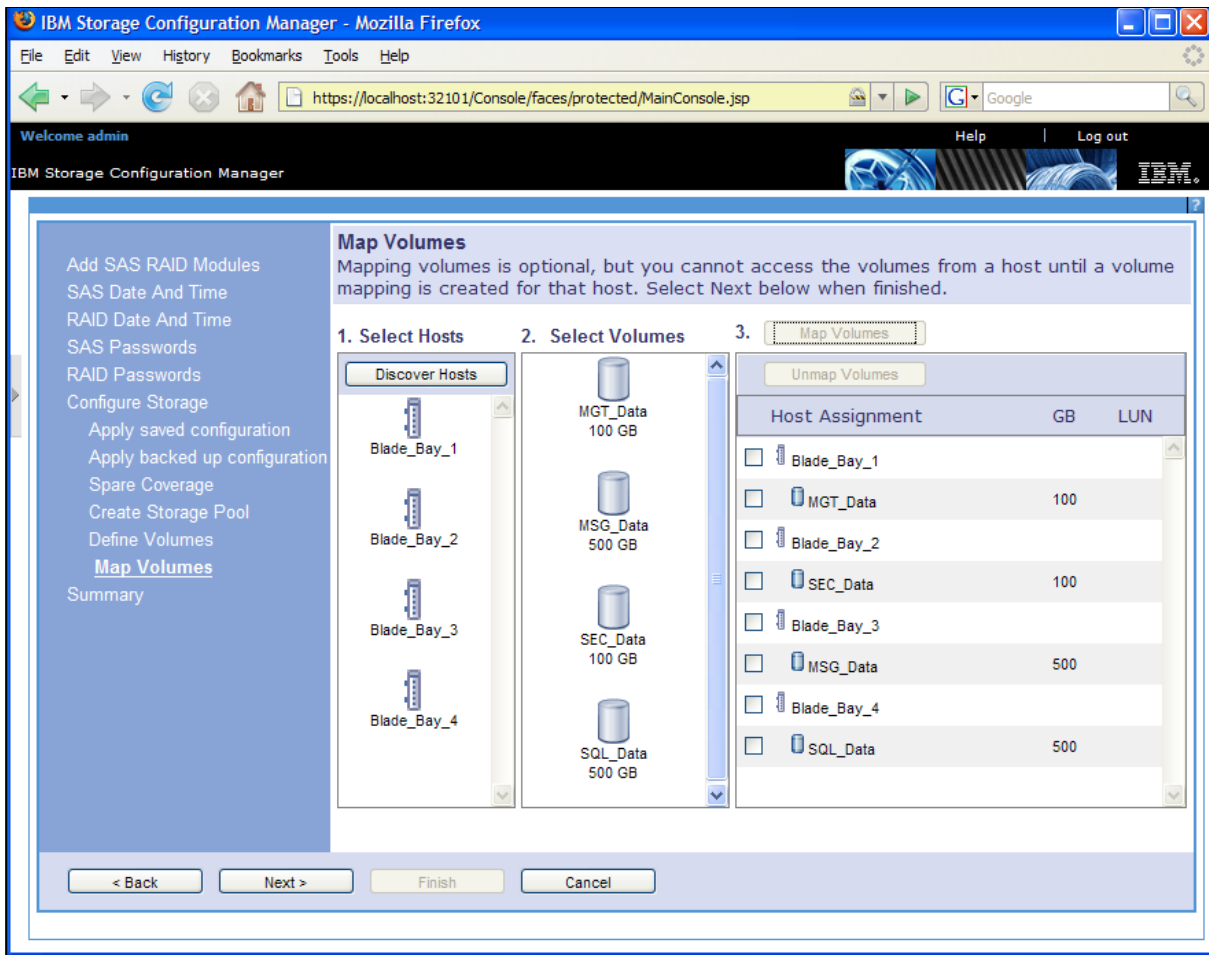

Figure 2-43 Map Volumes panel after volume mapping
14. Complete the volume mapping. Select a Host and a volume. Click **Map Volumes**. Upon completion, the “Map Volumes” panel will display all the mapped volumes listed to their configured host (Figure 2-43).